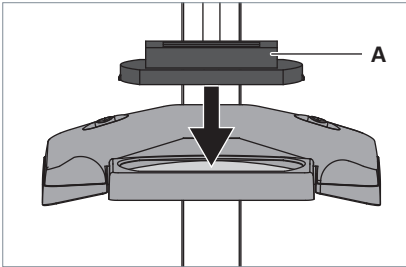

Fig. 3: Mounting the magnifier cover.
- ▶ Press the magnifier cover **A** on the magnifier from top, see Fig. 3.